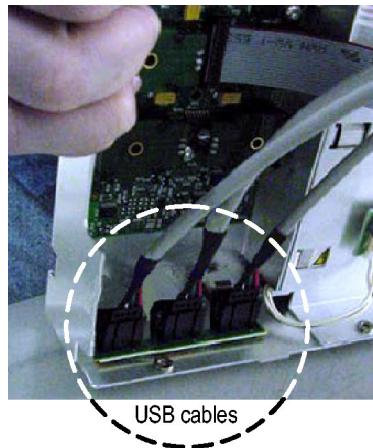

Figure 49: Disconnect the USB cables from the front panel
11. Disconnect the three USB cables from the front panel assembly. (See Figure 49.)